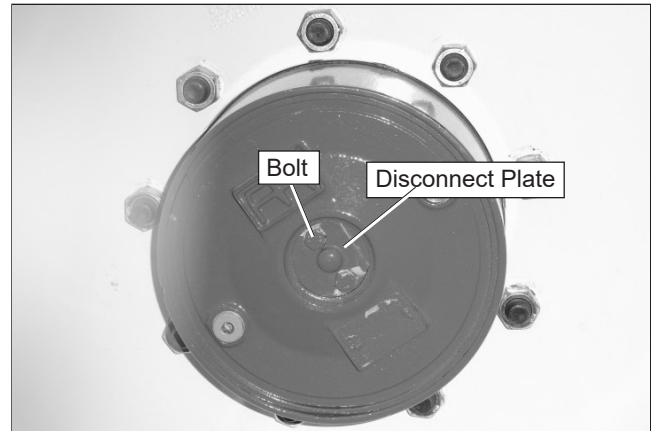

Figure 10.5 – Drive Wheel
10. At each drive wheel, remove the two bolts from the disconnect plate (refer to Figure 10.5). Turn the plate over so the nipple points inward. Reinstall the two bolts.
13. At each drive wheel, remove the two bolts and return the plate to its original position as shown in Figure 10.5.